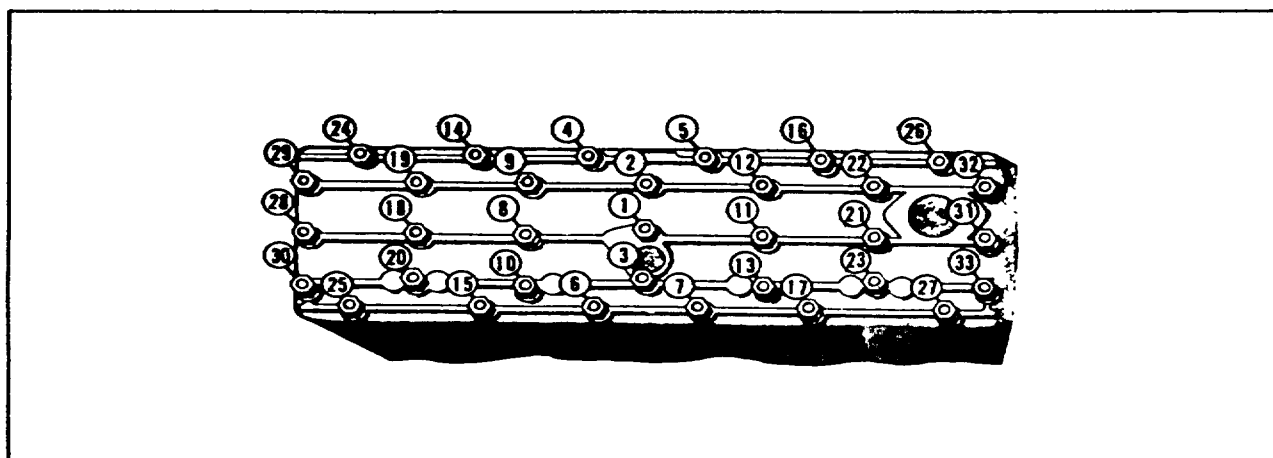

Figure 6-7. Six Cylinder Head Screw Tightening Sequence
2. Wipe mating surface of cylinder head (52) and position on cylinder block.
3. Loosely screw into position the six threaded high head screws (53) and washers (55) at oil dip stick bracket, coil bracket and lifting eye positions.
4. Loosely assemble high head screw (56) and washer (57) in cylinder head at position 18 of Cylinder Head Tightening Sequence, figure 6-7. This screw provides tapped boss for distributor holddown screw.
**To facilitate location of special screws, mark cylinder head with one light center punch dimple for locations of screws (53) and two dimples for screw (56) before removal.**
5. Loosely install remaining cylinder head capscrews (54) and washers (55) in cylinder head.
7. Tighten cylinder head screws, following sequence shown in figure 6-7. With an accurate torque wrench, torque each screw to 35 to 40 foot-pounds.